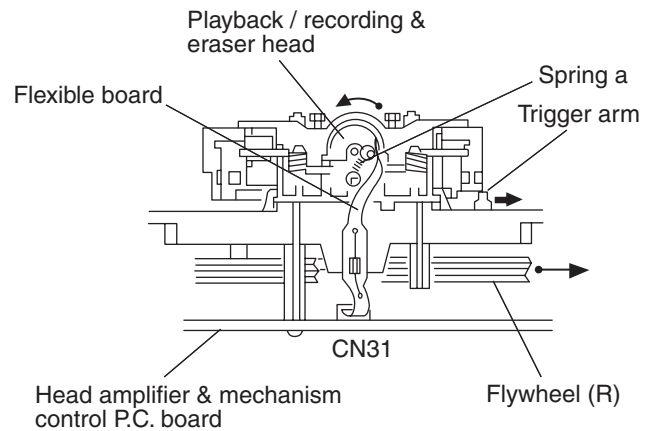

Fig. 2
2. When the flywheel (R) is rotated in counterclockwise direction, the playback / recording & eraser head will be turned in counterclockwise direction from the position in Fig. 2 to that in Fig. 3.
■ Reassembling the playback / recording & eraser head (See Fig.2, 3)